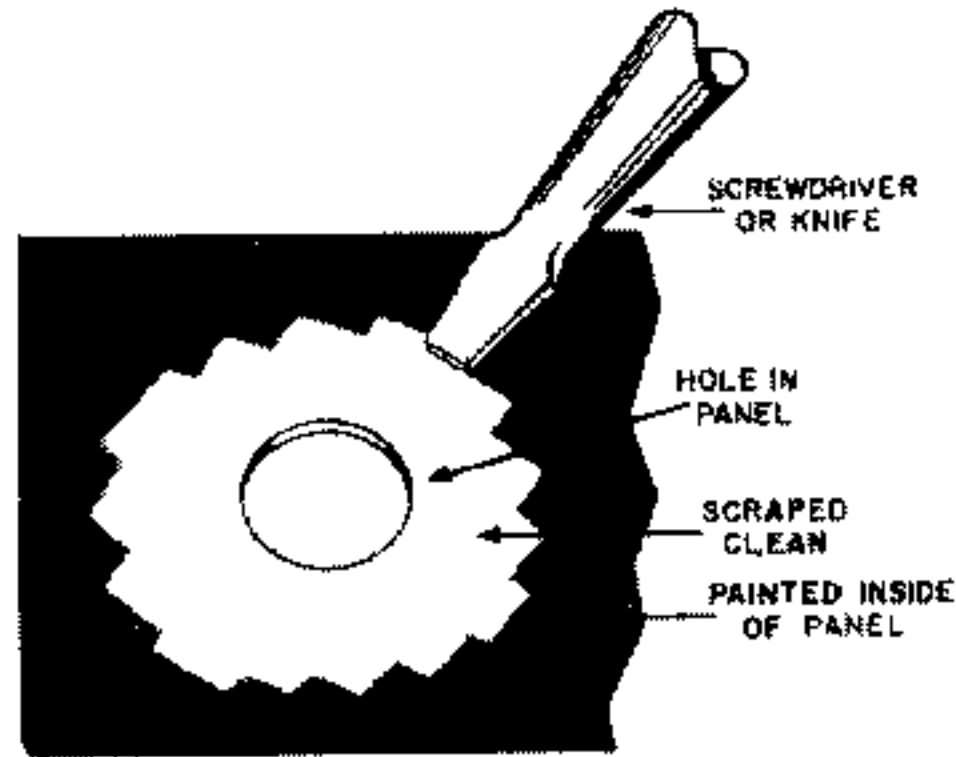

FIGURE 3. HOW TO SCRAPE PAINT
- On the inside of the chassis, scrape the paint from around the holes used to mount the INPUT and LOAD (J-1 & J-2) coaxial connectors, as shown in Figure 3.
- On the inside of the chassis, scrape the paint from around the hole marked GND. See Figure 3.